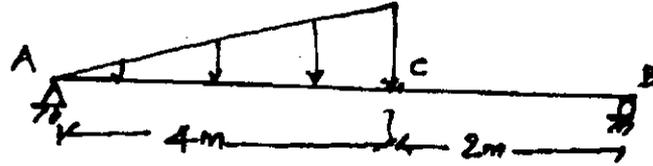

Fig. 4
- (b) For the simply supported beam shown in Fig. 4, draw BMD and SFD. Indicate the maximum shear force and bending moment. (16)